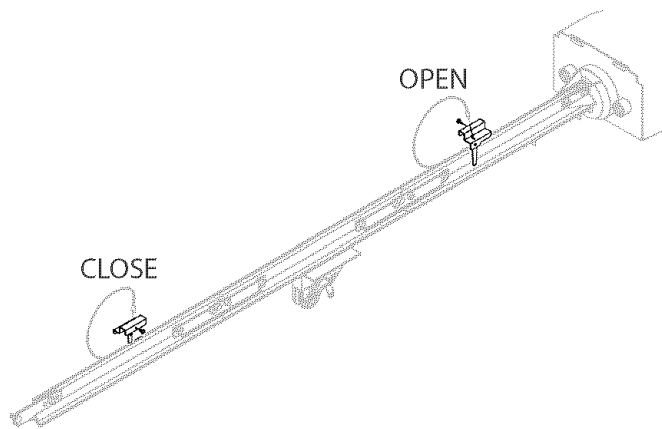

Figure MA-2 Making Force Adjustments
- Observe if door stops at "CLOSE" limit switch. (**Figure MA-2**). If door is fully closed—adjustment is finished. Go to "OPEN" Adjustment.
- Observe if door stops at "OPEN" limit switch. (**Figure MA-2**). If door is fully open—adjustment is finished.